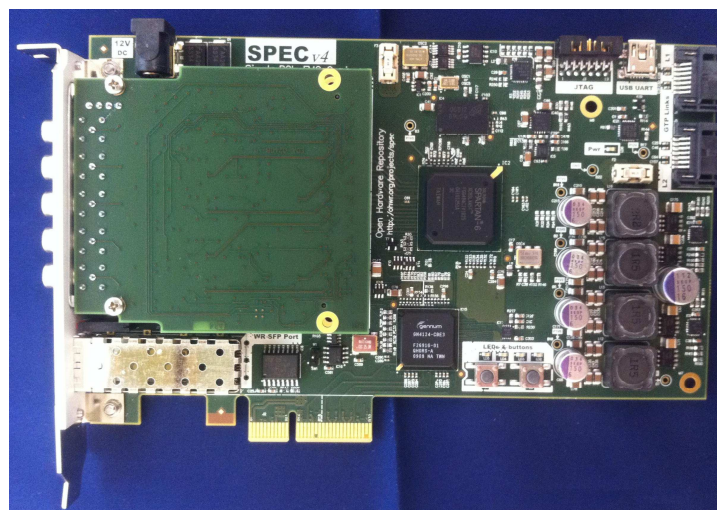

Figure 2: FMC-DIO-5chTTLa assembly
- 2) Mount the FMC-DIO-5chTTLa board on the FMC connector of the SPEC board as indicated in Figure 2. The FMC-DIO-5chTTLa board can be mechanically fixed to the SPEC board using spacers and screws.